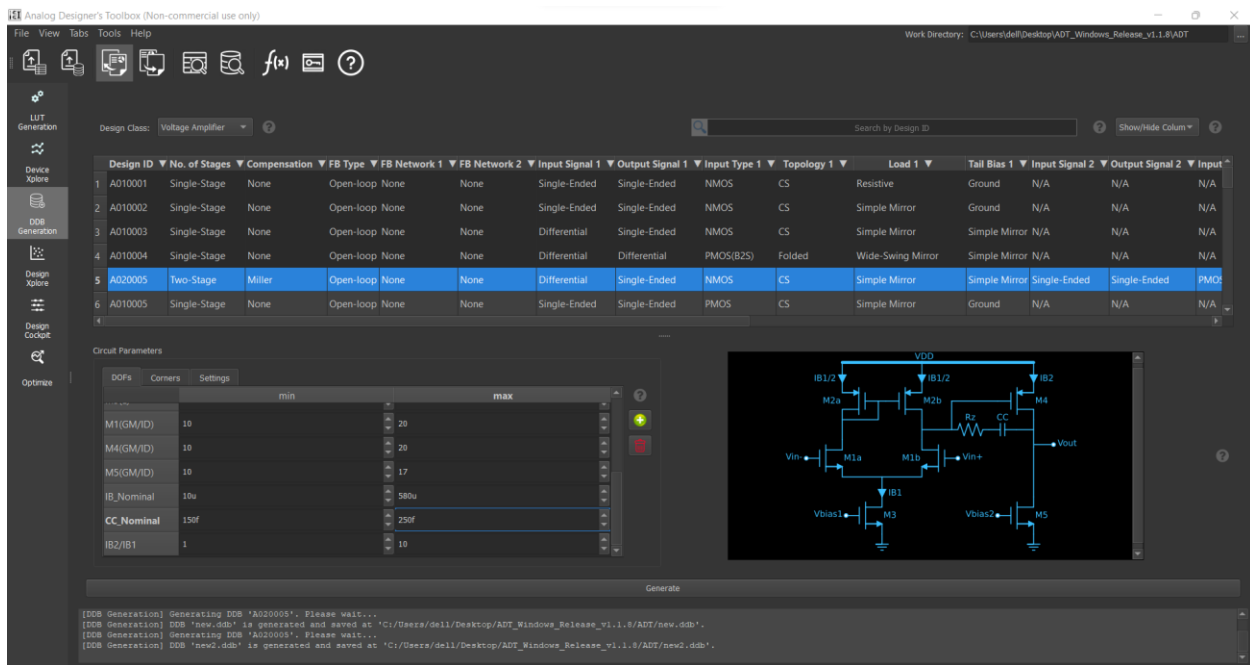

Figure 1.1
-Using ADT DDB generation and design cockpit , I designed the OTA to meet all the required specs as shown in figures 1.1 , 1.2.